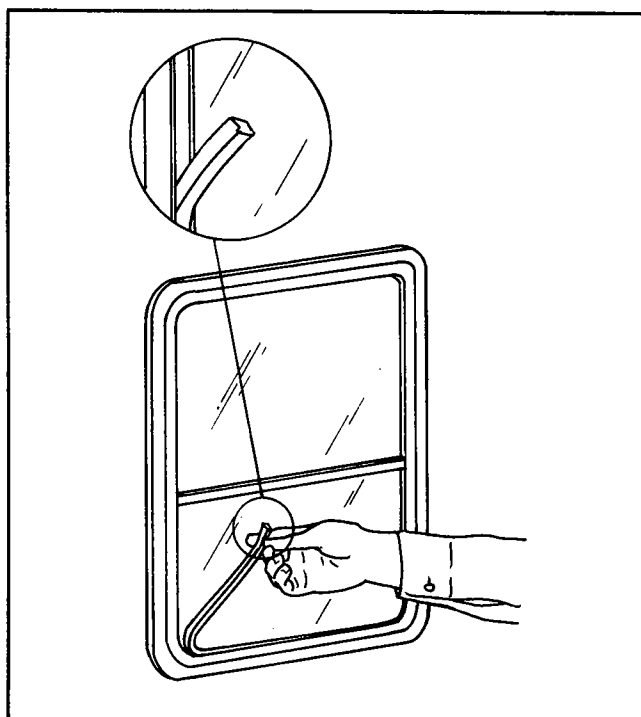

Figure 12. Rubber Strip
1. Remove rubber strip from sliding window track at bottom of door window, both side windows and rear window (figure 12).